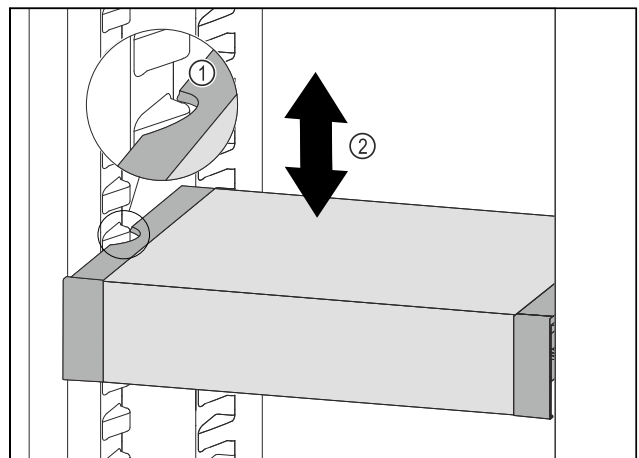

Fig. 126
- Pull VarioSafe forwards until the recesses in the side of the VarioSafe are at the level of the support rib in the refrigerator compartment. *Fig. 126 (1)*
- Move VarioSafe up or down in the refrigerator compartment until the desired height is reached. *Fig. 126 (2)*